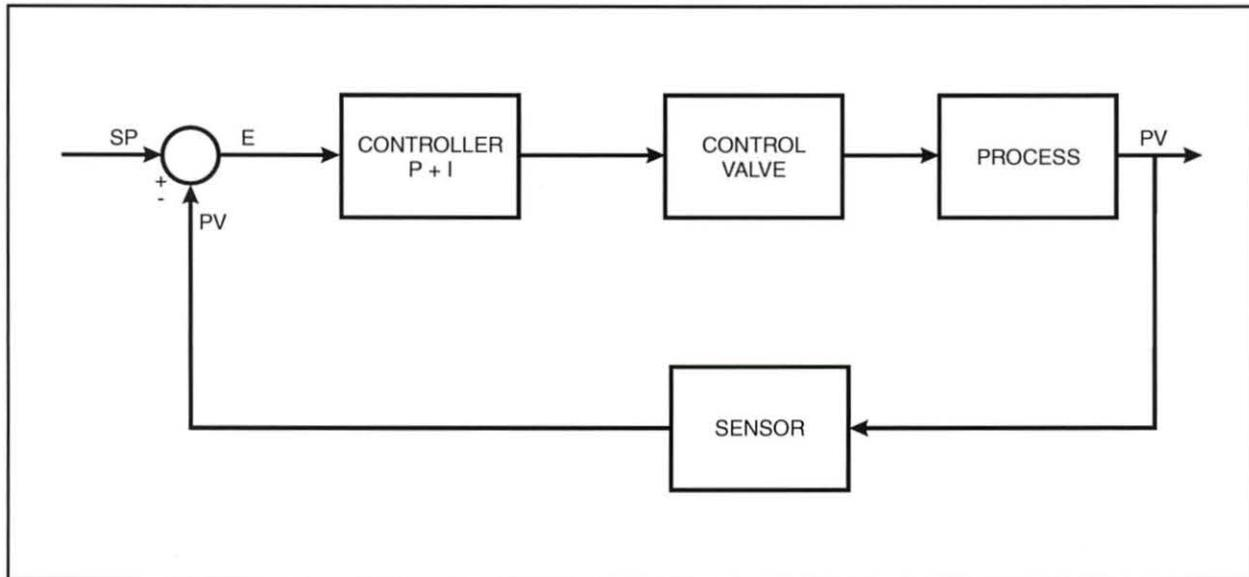

Figure 52. Block Diagram of a Process System Using PI Control
Proportional-Integral (PI) control combines proportional and integral control to provide an immediate response to error with no offset. Figure 52 shows a block diagram of a process system that uses PI control. The controller receives the feedback signal and determines the required combination of proportional control and integral control necessary to eliminate the error. The output is then sent to the final control element (valve) to control the process.